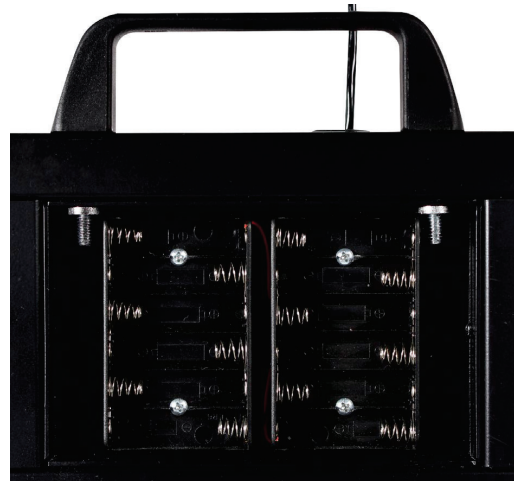

Figure No. 2
3. Referring to Figure No. 2, install the twelve "AA" size batteries (six in each holder), noting the polarity markings located in the battery holder.